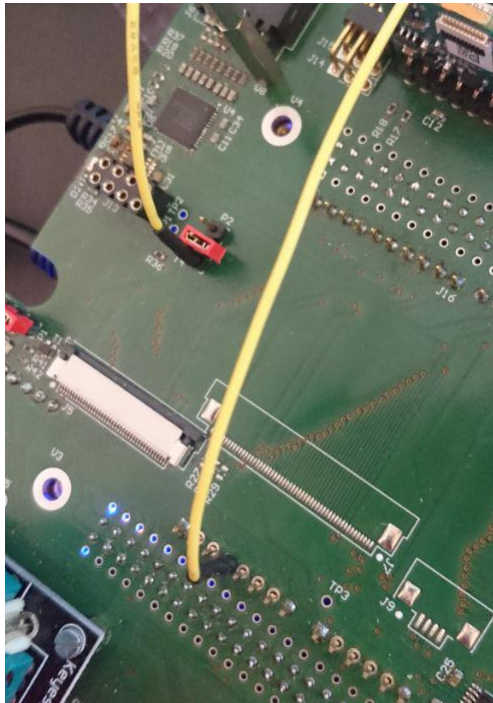

Figure 3: Connection of the two female-female cables to 3.3 volts sources.
3. Power on and enable the board : Take two female-female cables, connect them to two 3V3 pins, one is the default `ESP8266.VCC`, the other can be `VCC3P3` on the Arduino Extension. see figure 3.